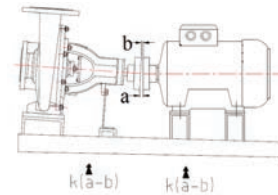
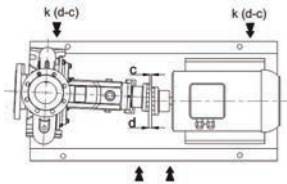

Figure 6: Angular Misalignment in Vertical Plane and Its Correction
Figure 8: Angular Misalignment in Horizontal Plane and Its Correction
1. Paralel Axis Misalignment (Figure 6-Figure 8)